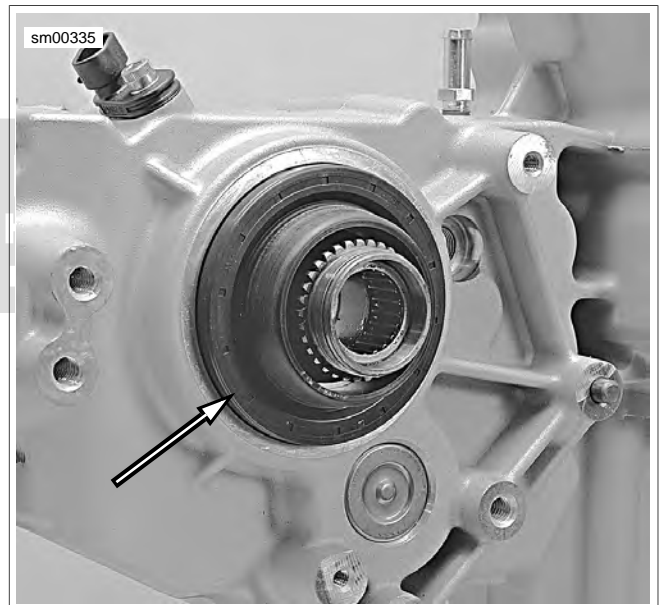

Figure 5-78. Install Main Drive Gear Seal (Typical)
3. See Figure 5-78. Place seal over pilot and position seal squarely in end of crankcase bore.